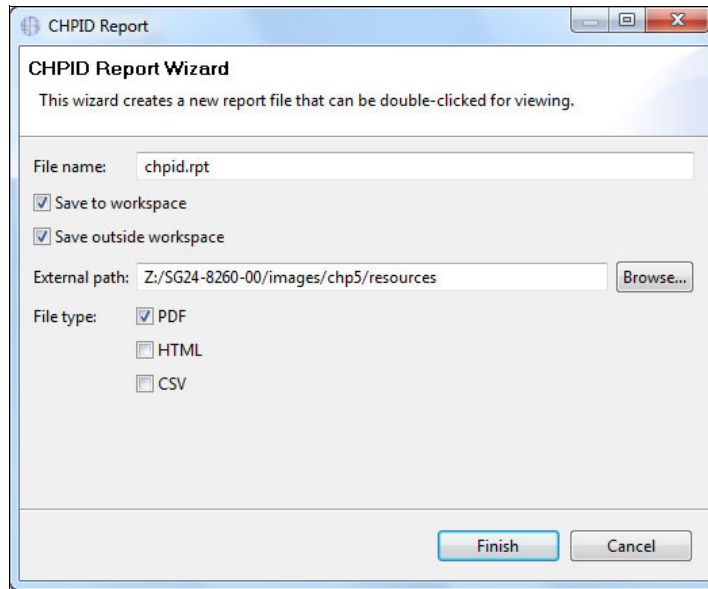

Figure 8-90 CMT - Save CHPID Report
2. Click **Save Report**. In the example, when you click **CHPID Report**, an option window opens (Figure 8-90). Specify a file name and an external path (location) of where to save the file. If you want to save the report in HTML, select **HTML**; the tool selects **PDF** by default. The window is similar for all type of reports. Click **Finish**.